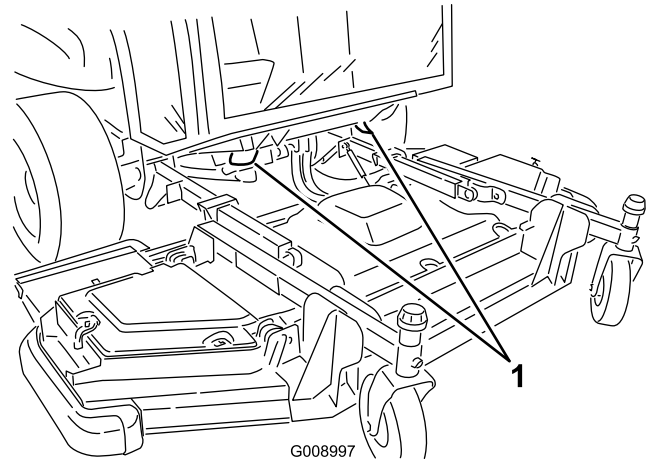

Figure 60
**Front of the machine**—under the front of the operator's platform (Figure 60)